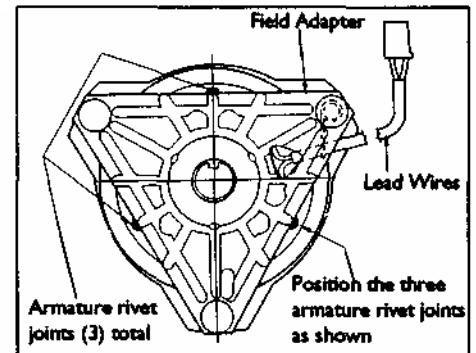

figure 1
2. Locate the three rivet joints which fasten the leaf springs to the armature (figure 1).
3. Rotate the pulley until these rivet joints are located midway along the edge of the triangular field adapter (figure 1).